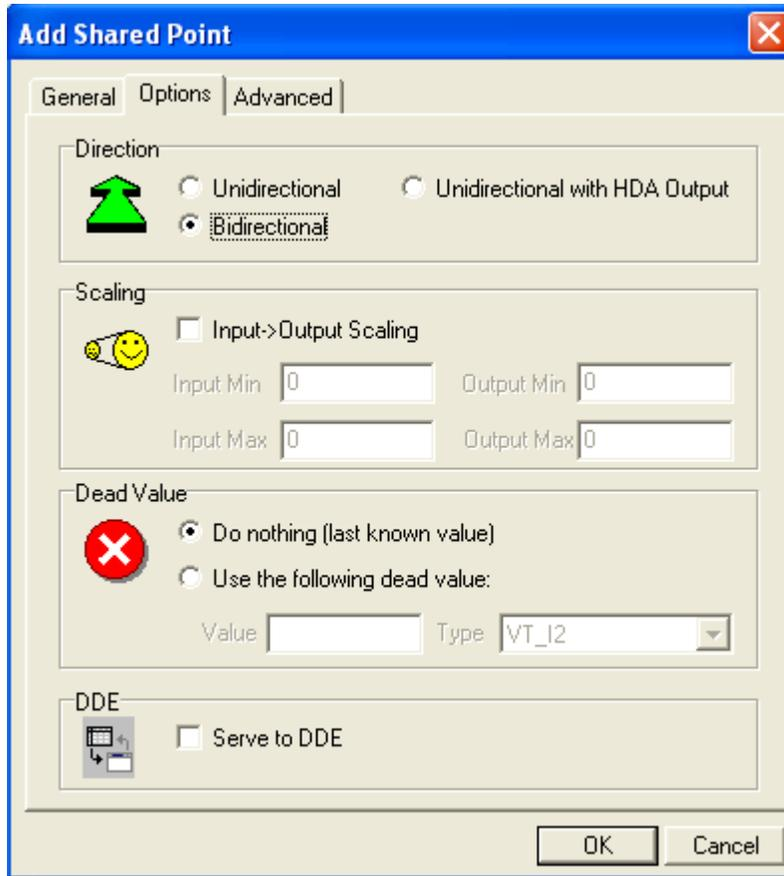

Figure 27 - Add Shared Point Window (Options Tab)
12. In the **Direction** screen section, select the **Bidirectional** option (Figure 27).